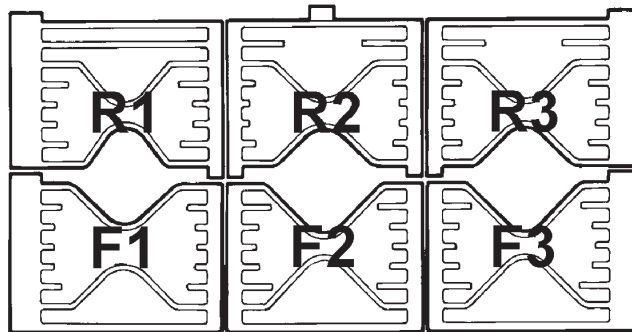

Fig. 8A
5. Fit the pan supports in the following order. The pan supports are marked on the underside to correspond to the markings below. The pan supports must locate in the recesses in the hotplate casting. (See Fig. 8A and 8B).